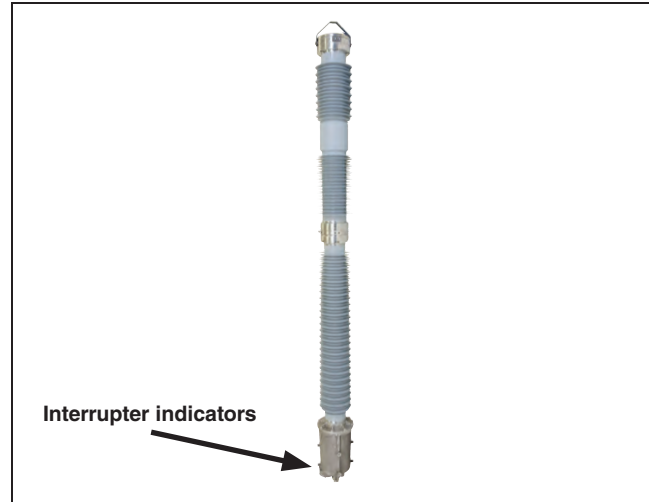
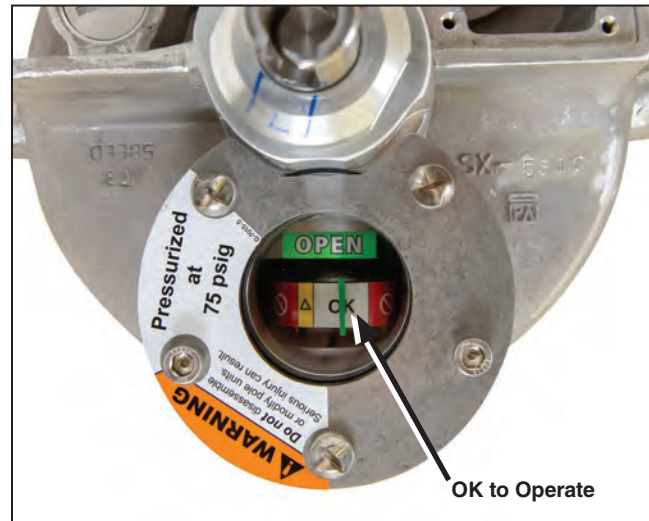

Figure 16. With the interrupter lifted off the ground, check the gas-pressure gauge on the underside of each interrupter.
Figure 17. Make sure the gas-pressure gauge on each interrupter is in the OK to Operate zone.
STEP 2. With the interrupter lifted off the ground, make sure the gas-pressure gauge on the underside of the interrupter is in the OK to Operate zone. See Figure 16 and Figure 17.